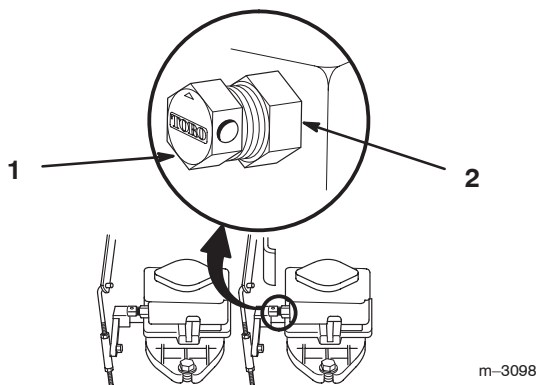

Figure 15
2. Loosen jam nuts and rotate by-pass valves open 5 turns to push. This allows hydraulic fluid to by-pass the pump and the wheels to turn (Figure 15).